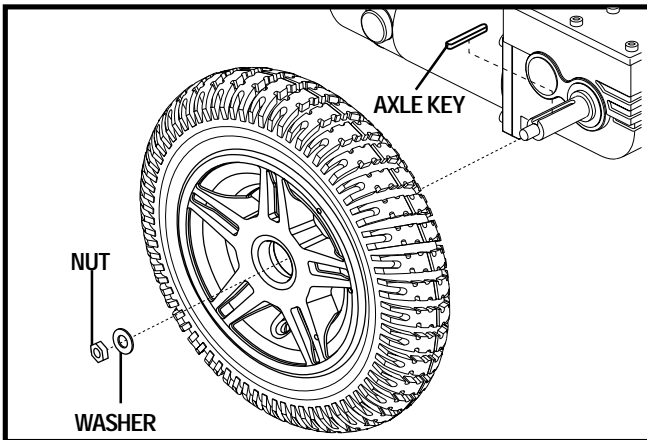

Figure 21. Jazzy Select 14 Drive Wheel
4. Remove the drive wheel nut and washer from the axle. See figure 21.